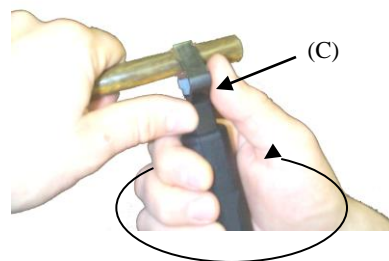

Fig. 4
Step 4. (Fig. 4) **For a longitudinal cut**, twist the tool handle 1/4 turn to the right and pull toward the end of cable.